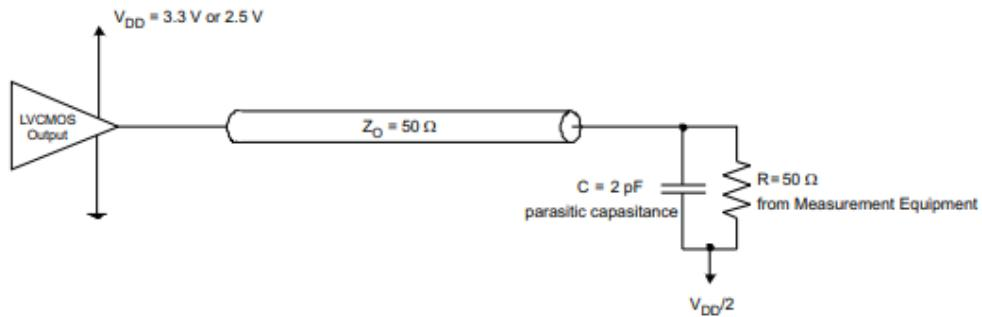

Figure 1. Test Load Circuit
(1) All typical values are at respective nominal VDD. For switching characteristics, outputs are terminated to 50 Ω to V_{DD}/2 (see Figure 1).
(2) This is the formula for the power dissipation calculation (see and the Power Considerations section).
The output load can be capacitive only or capacitive and resistive. The following formula and the power graphs in and Figure 1 can be used to obtain the power consumption of the device: